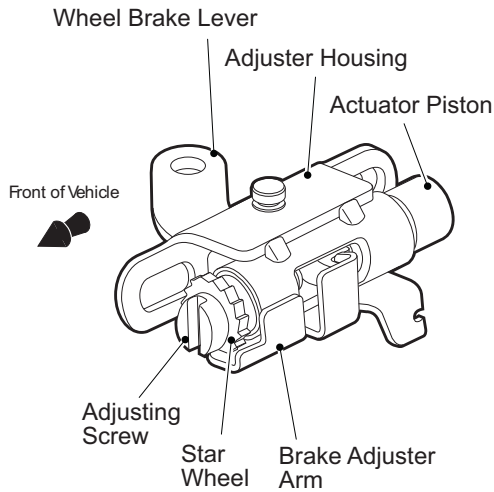

Figure 8 . Adjuster Mechanism
- Observe the brake adjuster arm and note if the arm engages the star wheel and attempts to rotate it (Ref. Figure 8)